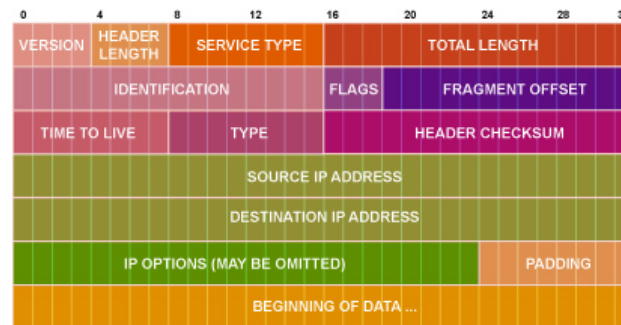

Figure 1. IP Packet Structure
1. **Heterogeneity:** It is easy to mix different equipment types and protocols on the same wireless network at the same time. With IP networks, protocols such as Modbus and HART are each encapsulated in a data packet and then routed to the appropriate destination. See figs. 1,2.